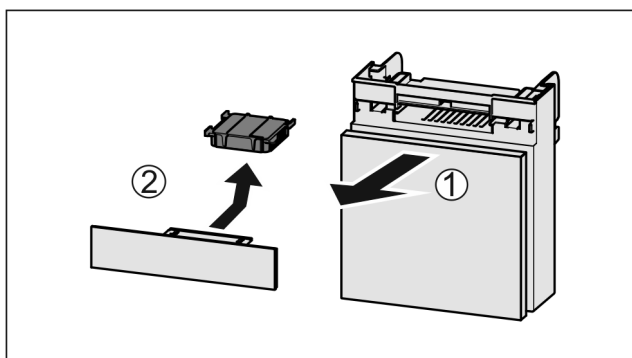

Fig. 114
- Pull out the compartment Fig. 114 (1).
- Remove the carbon filter Fig. 114 (2).